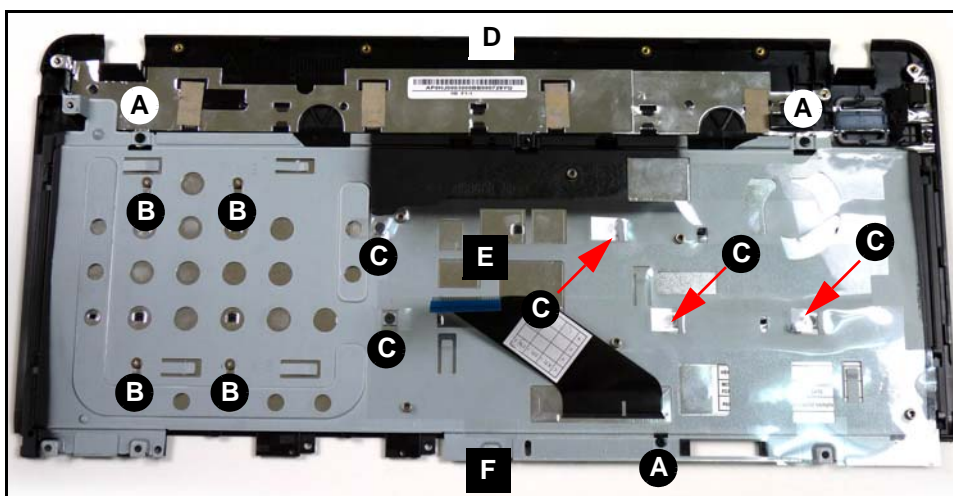

Figure 3-39. Keyboard Assembly Screws
1. Remove three (3) screws (A), four (4) screws (B), and five (5) screws (C) from keyboard. (Figure 3-39)
2. Install keyboard support plate (E) on keyboard. (Figure 3-39)
3. Slide keyboard support plate toward bottom edge (F) of upper cover.
4. Install and secure three (3) screws (A), four (4) screws (B), and five (5) screws (C) to keyboard. (Figure 3-39)